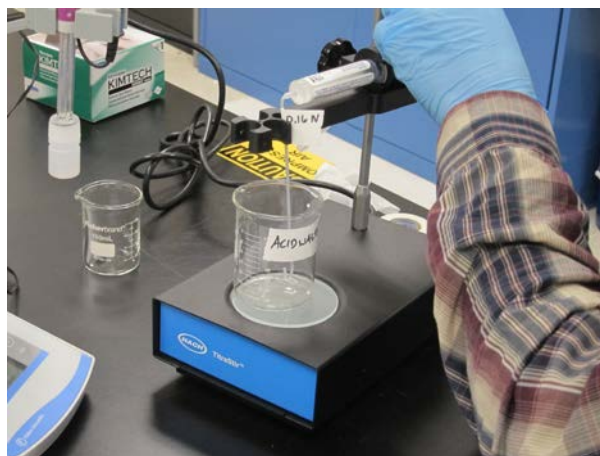

Figure 18. Diagram of procedure to expel acid from digital titrator set-up into a temporary acid waste container.
5. Turn the delivery knob to expel a few drops of titrant into a discard/acid waste container (Figure 18). This should remove air bubbles from the tube.
- a. Sample solution must cover the pH sensor bulb, sensor reference electrode and temperature sensor (Figure 18). Increase volume, using pipettes or graduated cylinders, as necessary, or change beaker size, being sure to transfer the entire sample by rinsing beaker with DI into the smaller beaker. Volume of rinse DI should not be included as part of the sample volume.